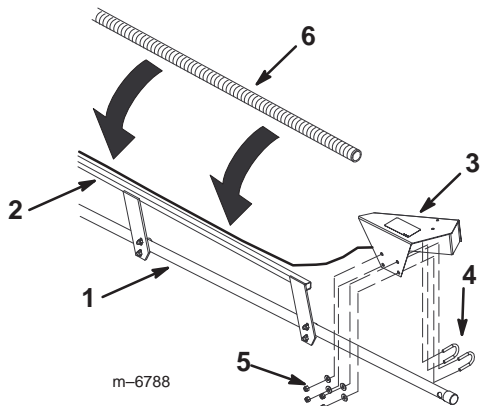

Figure 1
2. Lightly secure the right ultrasonic sensor to the right boom pipe halfway between the last nozzle and the vertical support (Fig. 1), using 2 U-bolts, 4 washers (5/16 inch), and 4 locknuts (1/4 inch).
4. Route the sensor wire along the top of the boom support to the center of the center boom pipe (Fig. 1).
5. Place the split, black, corrugated tube over the sensor wire and boom support to cover the wire from the sensor to the end of the boom support (Fig. 1).